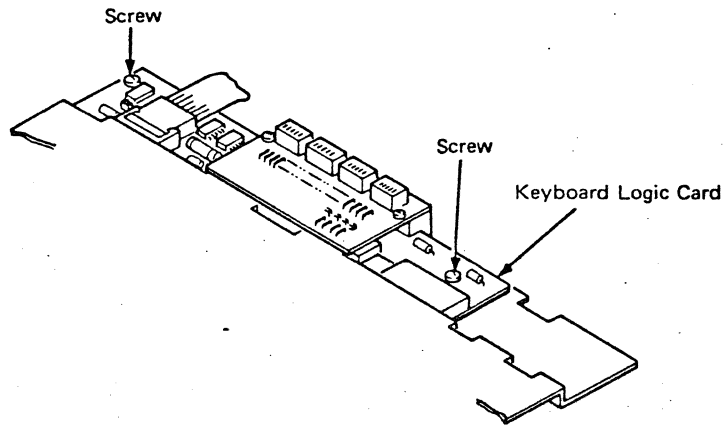

Figure 4-10. Keyboard Logic Card Removal
5. Remove the two retaining screws from each end of the Keyboard Logic card, as shown in Figure 4-10.